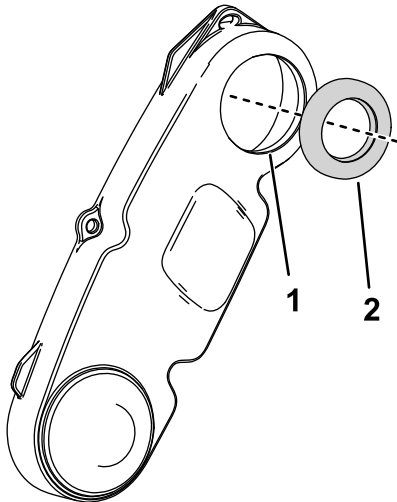

Figure 9
6. Lubricate the lip of the reel-drive cover and press the seal flush into the cover (Figure 9).